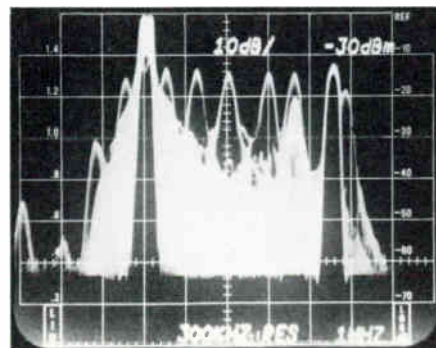

Figure 11. In-Service VIT Sideband Analysis Using Multiburst
5. As an alternate, the multiburst line can be selected to energize the Z axis and a picture of the R.F. response can be obtained as in Figure 11. This picture closely matches the sideband response of a transmitter.